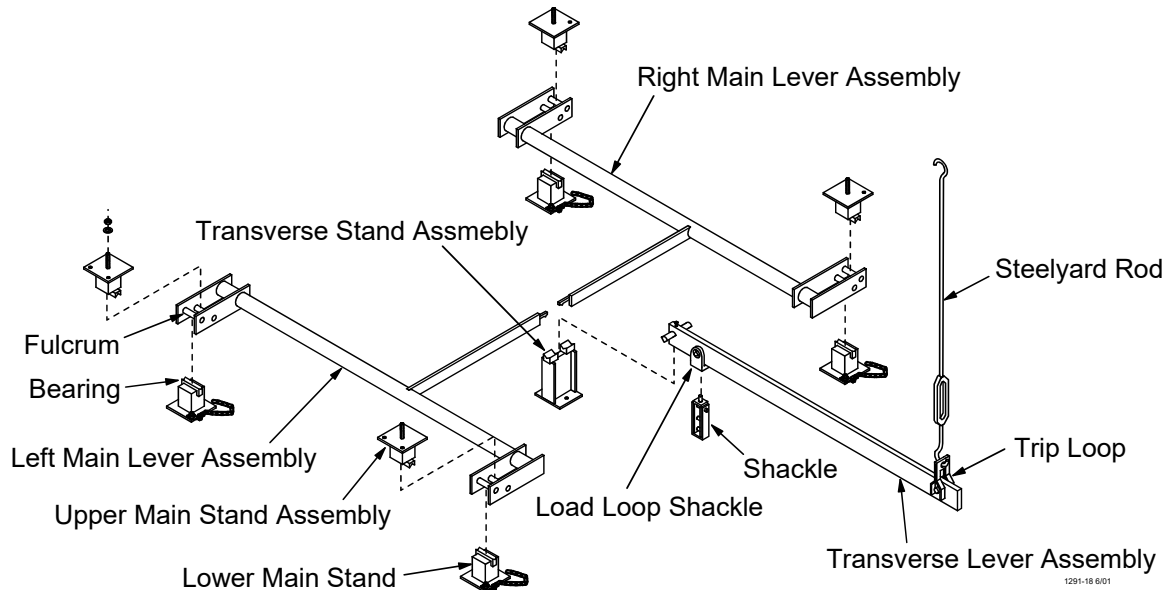

Figure 9. Installing the Stand Assemblies and Lever Assemblies
5. Refer to **Figure 9** for the layout of the Stand Assemblies and Lever Assemblies.
7. Attach the Shackle to the Transverse Lever. See **Figure 9**. Rest the Fulcrum Pivot of the Transverse Lever on the bearings of the Transverse Stand.
9. Hook the Steelyard Rod to the Trip Loop of the Transverse Lever and connect the other end of the rod to the Loop Assembly on the Weighbeam. **Adjust the turnbuckle so that the Transverse Lever is level.** See **Figure 9**.